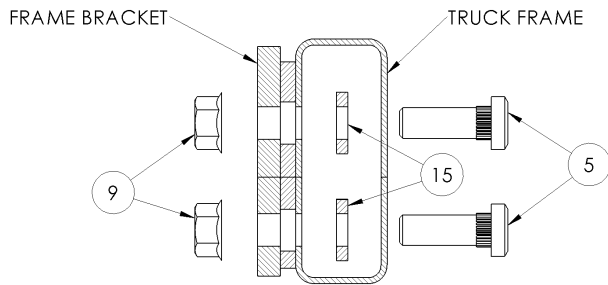
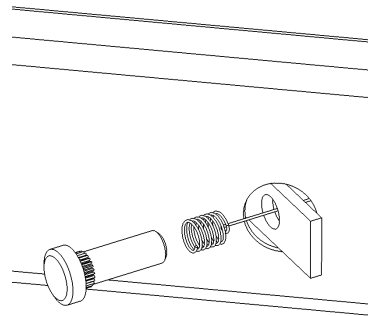

Figure 7
Figure 8
- Carefully pull the straight end of the pull wire out of the frame and also guide the spacer plate into the hole/slot first and then the wheel bolt, see Figure 8. Continue to pull the pull wire until you can pull the threaded end of the wheel bolt out of the 17/32" diameter hole, see Figure 7. Hold the wheel bolt and un-screw the pull wire from it and then thread the lock nut onto the wheel bolt. Repeat steps 9 and 10 for each of the other spacer plates and wheel bolts.